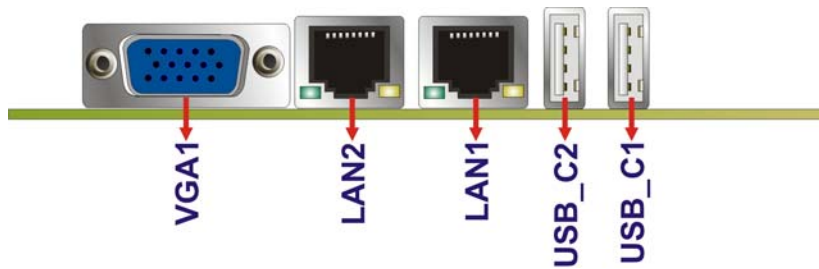

Figure 3-19: External Peripheral Interface Connector
- CN Location:** See **Figure 3-19**